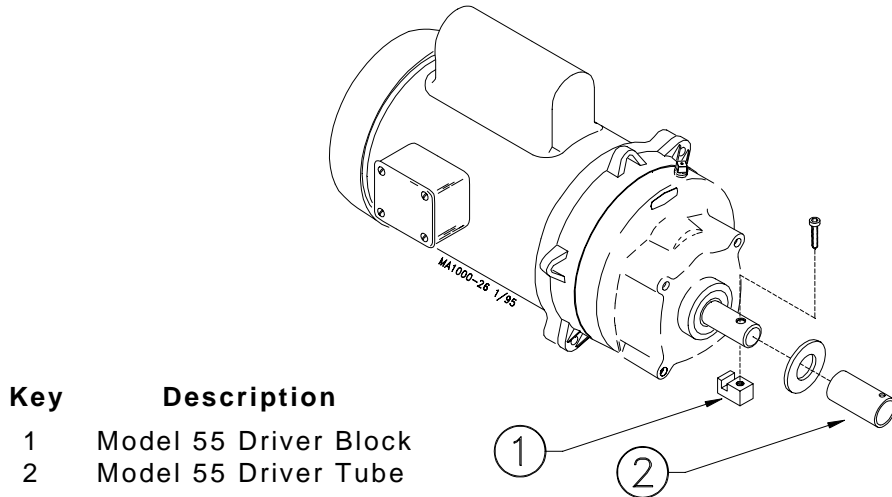

Figure 16. Model 55 Auger Installation (Drive End)
Figure 16 shows the Model 55 Driver installation procedure. Control Unit not shown for clarity.
3. Rotate the auger so that it is fully engaged on the Driver. Tighten the screws securely to clamp the auger to the control unit. See Figure 16 or 17.